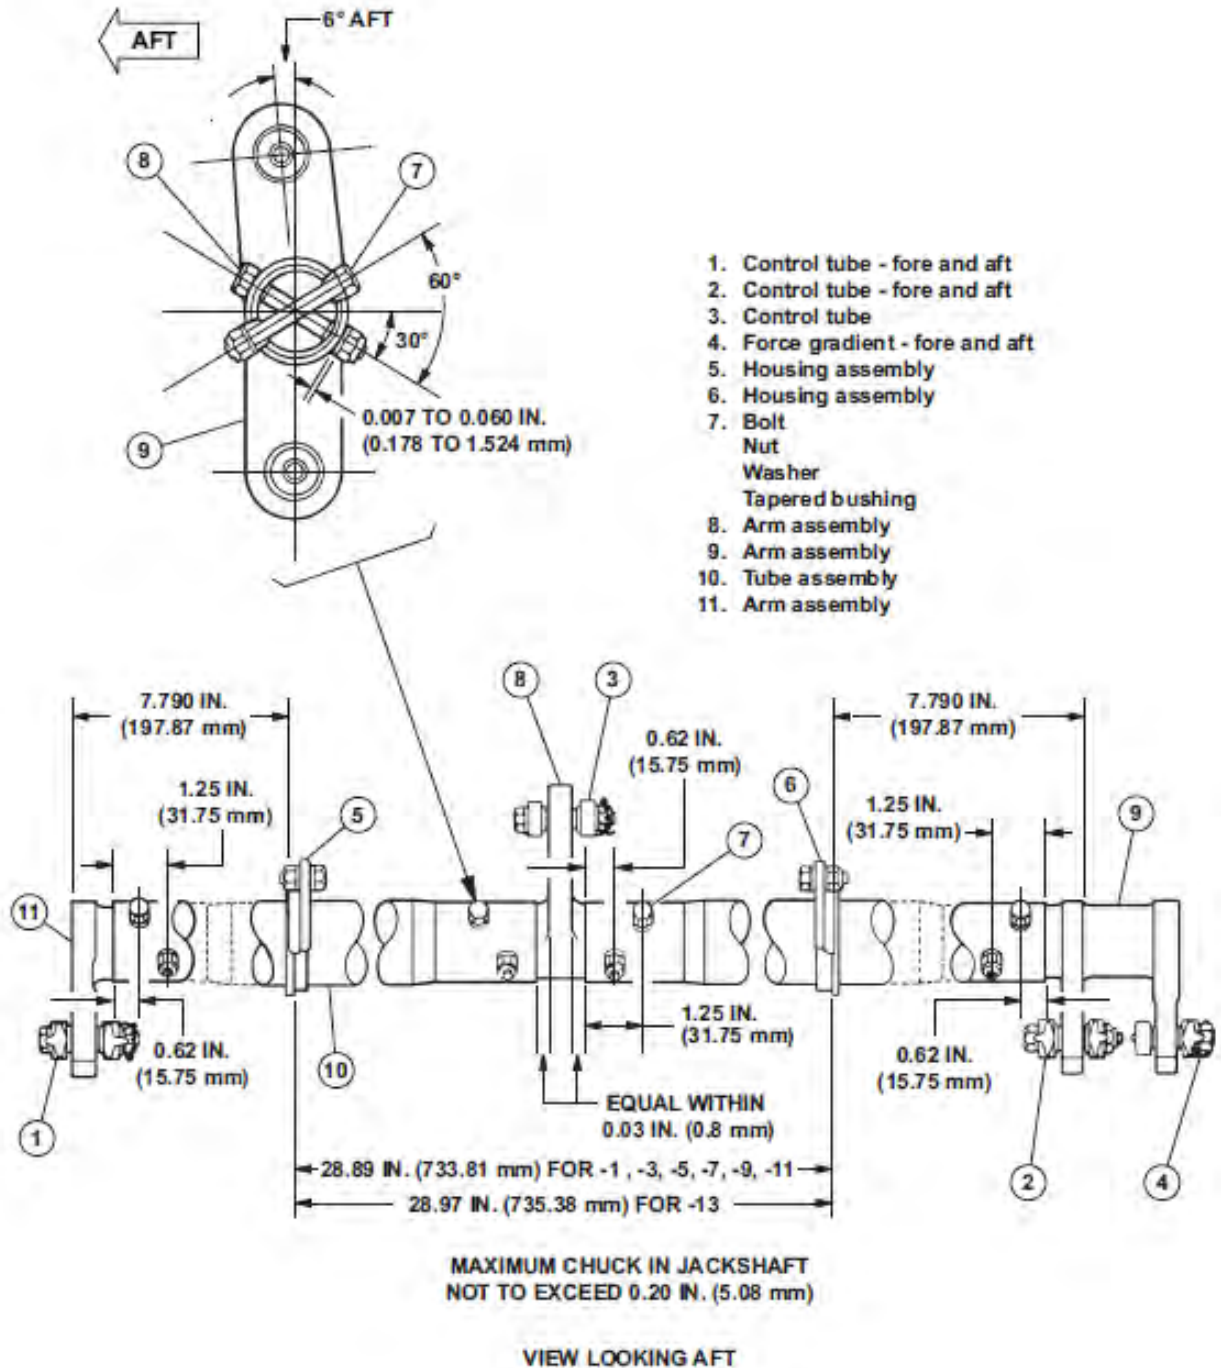

Figure 67-16. Cyclic Jackshaft
67.3.6.2.6 The maximum allowable lateral movement on cyclic jackshaft (26) is 0.20 in. (5.08 mm) (Figure 67-16).
67.3.7.1.2 Disconnect control tubes (1, 2 and 3, Figure 67-16) from jackshaft. Disconnect force gradient (4) from cyclic jackshaft.
67.3.7.1.6 Hold dimensions as shown on Figure 67-16.
After torquing bolt (7), the washer must be held off the surface of jackshaft tube within limits given in Figure 67-16, detail A.